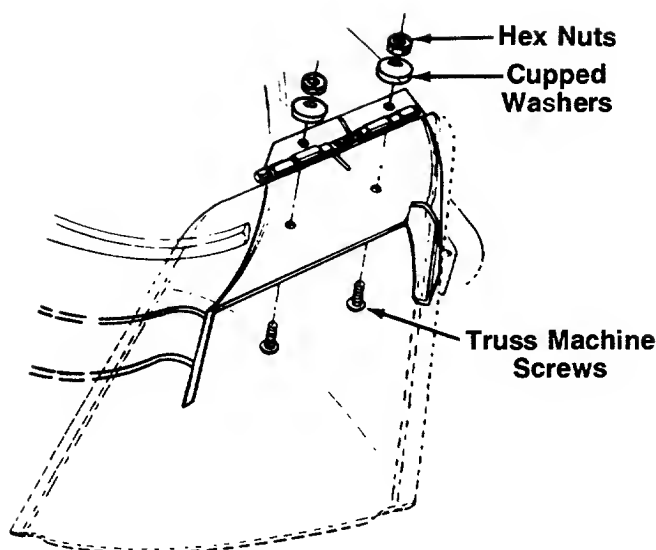

FIGURE 10.
2. Place the chute deflector in position as shown in figure 10. Secure with hardware just removed.